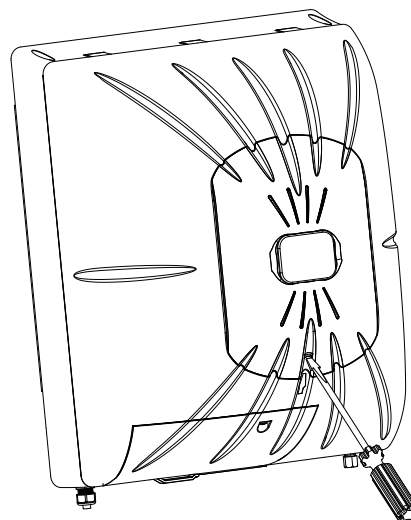
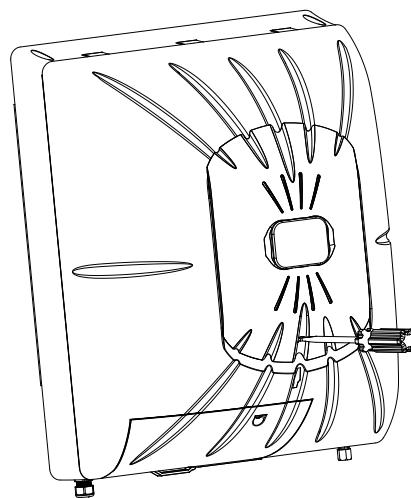

Figure 15
Figure 16
2. Insert a flat-head screwdriver into the motor cover as shown in Figure 15. Tilt the screwdriver up as shown in Figure 16. This will release the motor cover and allow you to slide it off of the humidifier dome.